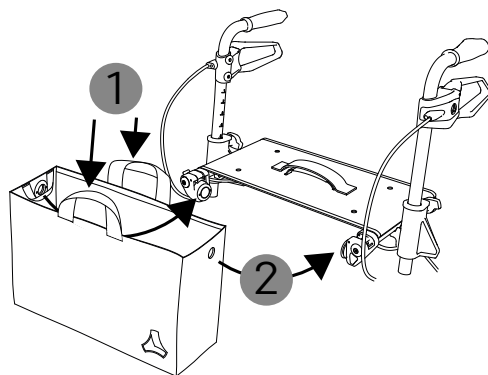

Fig. 11
1. Grab the large grip loops on the long sides to attach the bag (1, Fig. 11). You can also grab the two small loops on the inside and use them for attachment.
3. Hold the magnets on the sides of the bag near their magnetic counterparts on the rollator so that they can engage (2, Fig. 11). Guide the bag to the bag suspension from below, if possible. You will hear a distinct snapping sound when the magnets are properly engaged.